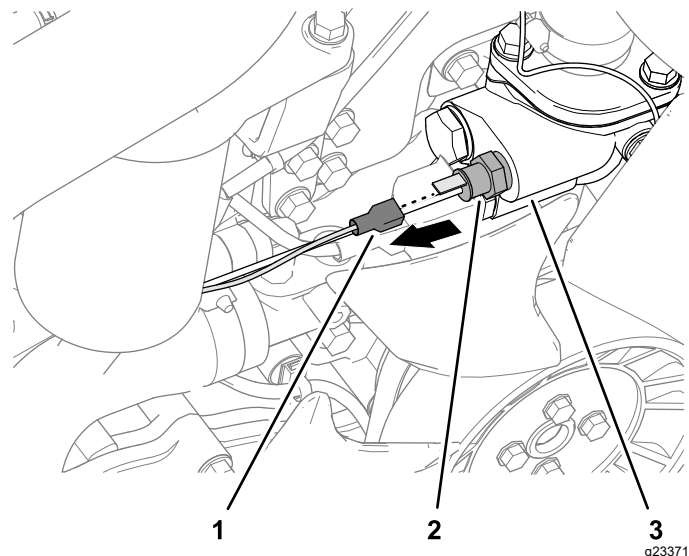

Figure 22
1. Remove the socket terminal from the coolant temperature sensor (Figure 22).